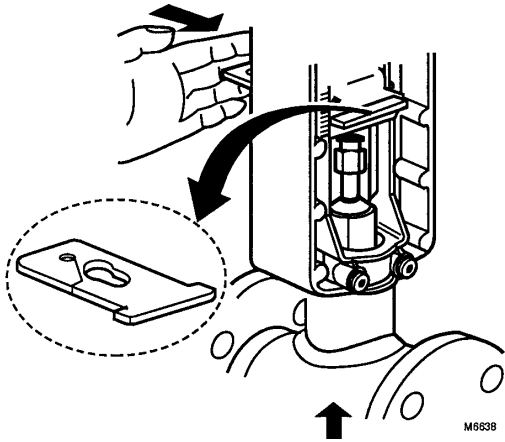

Fig. 3. Attaching actuator to valve stem.
2. Push the stem button retaining clip and hold. See Fig. 3.